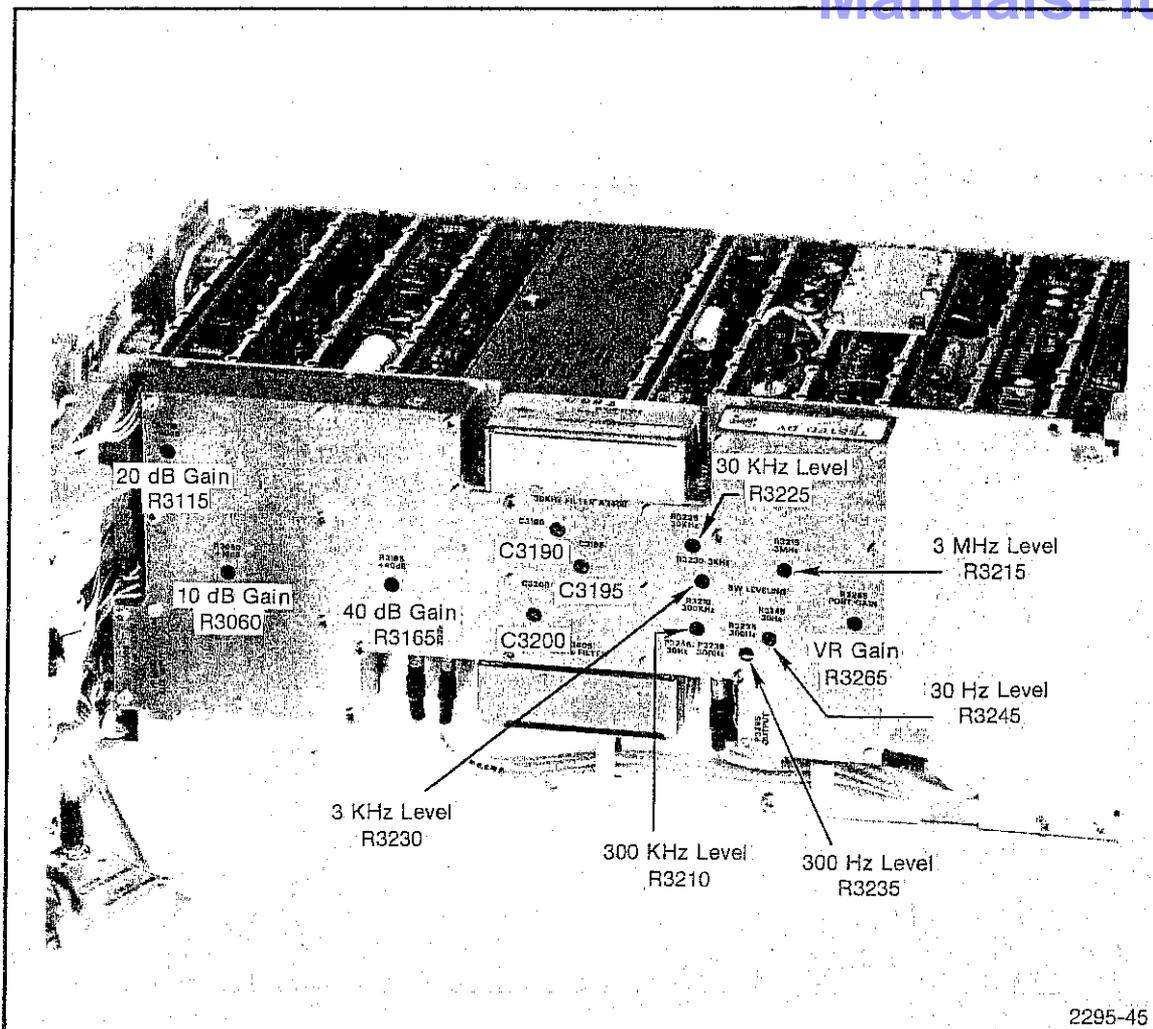
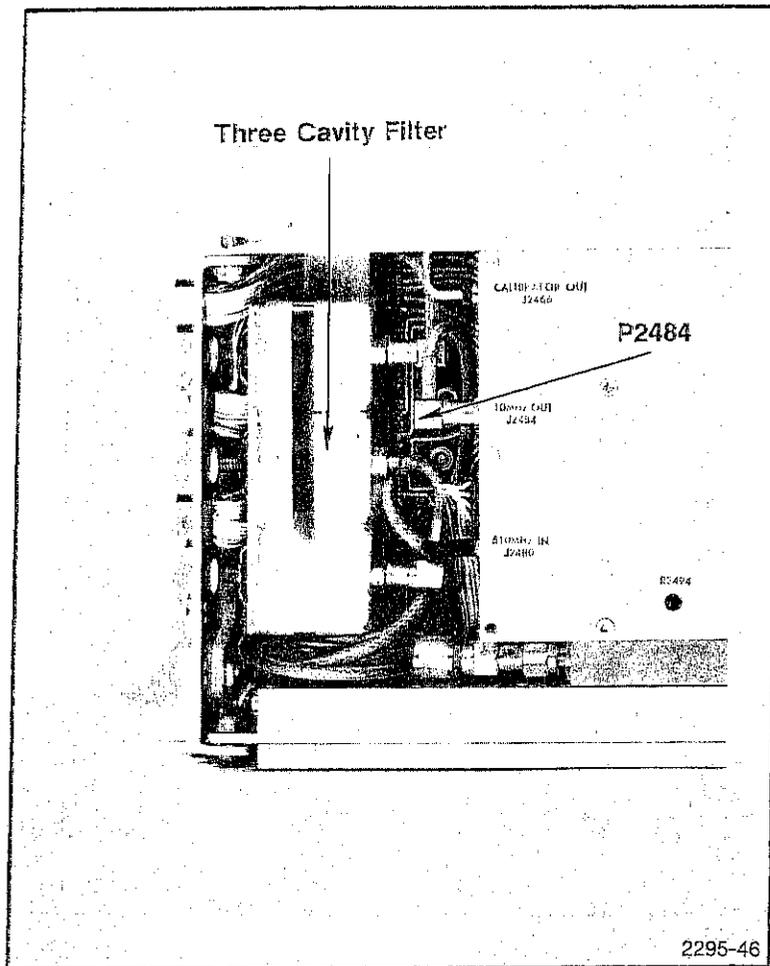

Fig. 4-37. Location of Connectors and Adjustments used When Calibrating the VR Circuits.
Fig. 4-38. Location of P2484 and 3-Cavity Filter.
- d. Set the 30 Hz Level, R3245 (Fig. 4-37), about 10° from the full clockwise position and set R3235, 300 Hz Gain, to mid-range.
- e. Adjust the frequency of the signal generator for maximum indication on the power meter, then adjust VR Gain R3265 (see Fig. 4-37) for 0 dBm reading on the power meter.
h. Disconnect P2484 (10 MHz Output on the 2nd Mixer assembly, see Fig. 4-38), then apply 10 MHz, -30 dBm signal from the signal generator through a 10 dB step attenuator and bnc-to-Sealectro adapter, to P2484.
j. Adjust the generator output gain for a display amplitude of seven (7) divisions. This will be the VR reference level for the other bandwidth selections.
k. Switch the RESOLUTION BANDWIDTH to 300 Hz and adjust the filter output gain, with 300 Hz Level R3235, (see Fig. 4-37), so the amplitude of the display equals the reference level established in part j.
l. Adjust the output of the remaining resolution bandwidth filters to the reference level with the following level adjustments (see Fig. 4-37):
n. Adjust 10 dB Gain R3060 (see Fig. 4-37) for a calibrated 10 dB of gain increase.
p. Adjust 20 dB Gain R3115 (see Fig. 4-37) for a calibrated 20 dB of gain increase.
r. Adjust 40 dB Gain R3165 (see Fig. 4-37) for a gain increase of 80 dB.